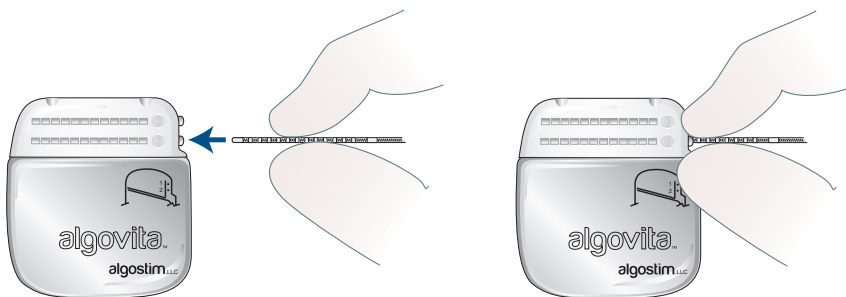

Figure 7. Insert the lead or extension into the connector port.
- b. Slowly insert the lead or extension into the appropriate connector port (*Figure 7*), stopping when the lead or extension begins to meet resistance or your fingers touch the connector port.